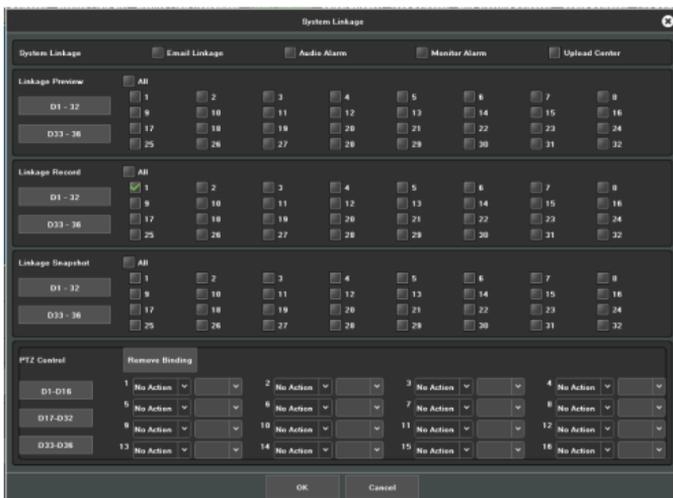

Figure 7.20 Linkage
- 4) Set up the linkage operation of the channel, as shown in Figure 7.20.